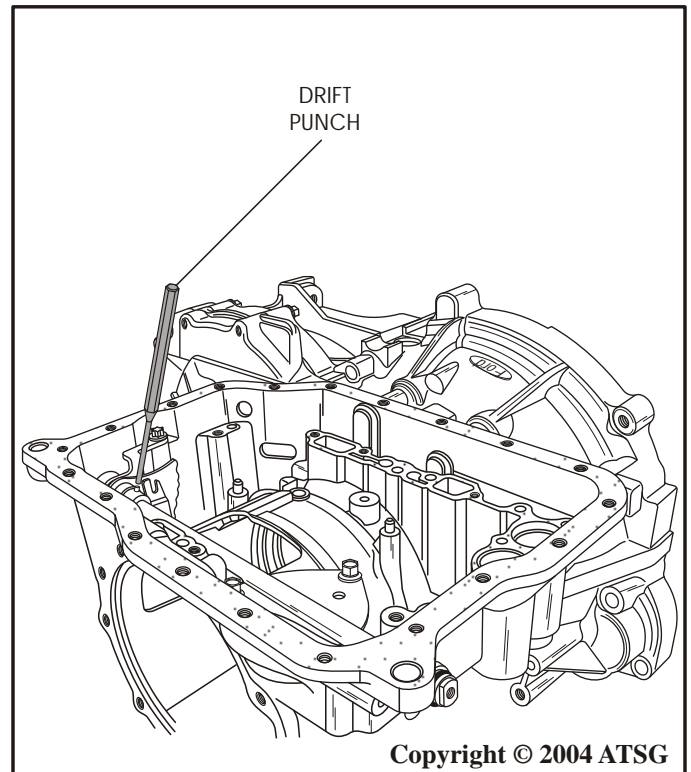

Figure 42
38. Remove the manual lever shaft retaining roll pin using a drift punch and small hammer, as shown in Figure 42.